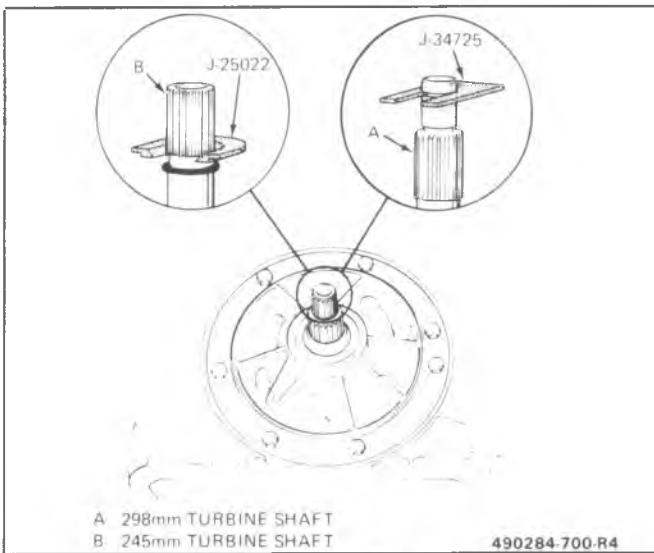

Figure 56 End Play Tool
**Tighten (Figures 56 and 57)****TOOLS REQUIRED:**